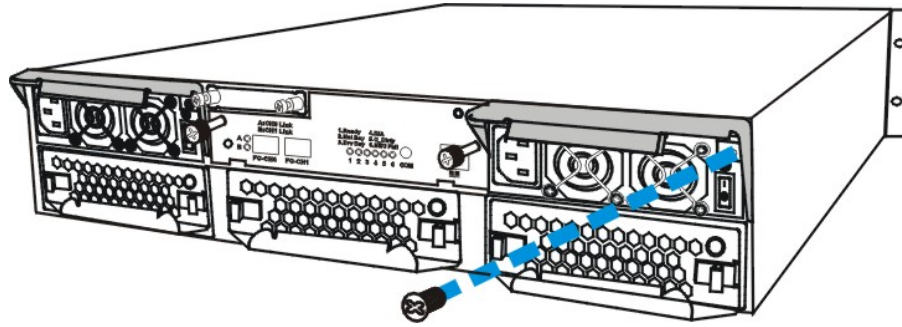

Figure 5-6: Removing the PSU Retention Screw
- Step 3. **Remove the retention screw:** After the power cable has been removed from the power connector, remove the retention screw at the upper right side of the PSU rear-end panel. The screw is located below the extraction lever, beside the LED indicator, and can be hidden from sight. (See *Figure 5-6.*)